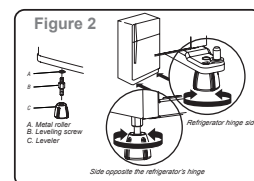

Figure 2
- D.** Level your refrigerator using the following instructions: (figure 2)
2. Place the tank on a flat surface and remove the cover by pulling upwards (see figure 2).